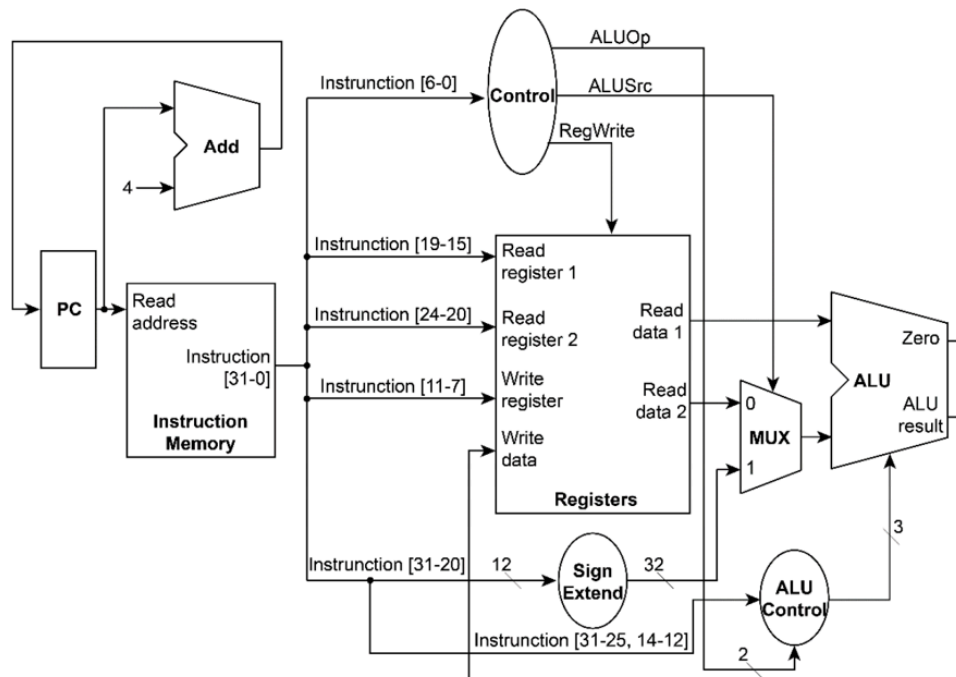

Figure 1 Data path of the CPU in this homework
- Figure 1 describes the CPU data path.
- **You may implement** the modules listed in Section 1.6, and integrate them in `CPU.v`, it will be easier if you follow Figure 1